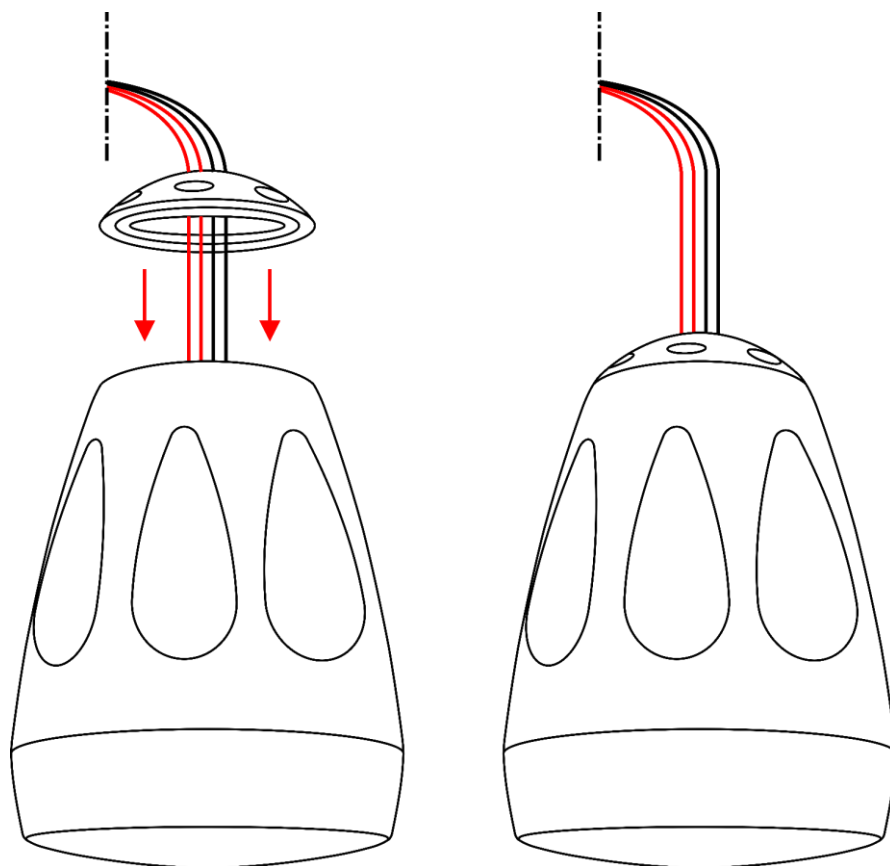

Fig. 09
04) Put the **speaker cover (02)** on the top of the device (Fig. 09).